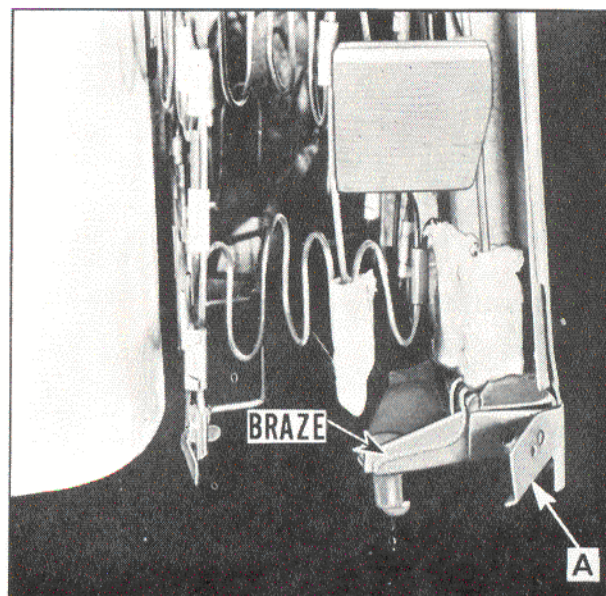

Fig. 6
7. Carefully bend metal flange "A" (fig. 6) to obtain clearance for brazing.
8. Block spring border wires away from the immediate brazing area with a wood block. Protect springs with an asbestos paste and trim with sheet asbestos as shown in Figure 6.
9. Clamp reinforcement to hinge arm and tack braze into position, then remove clamp and braze reinforcement along outer surfaces as shown in Figure 6. Also apply a bead of brazing along inner contacting surfaces of reinforcement.